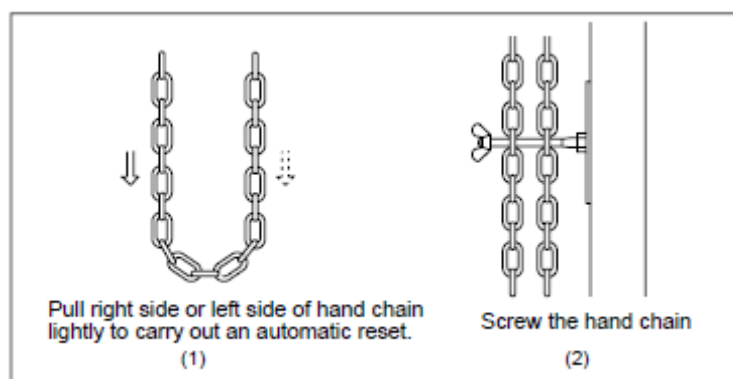

Fig. 10
- If the close indicator light on the control box flashes and the operator does not work by operating the control box button, pull one side of hand chain lightly until a reset is carried out see Fig.10 (1), the close indicator light turns off, and now the control box can be used.
- It is important to ensure that the chain is not fitted twisted. If the chain is twisted, malfunctions may occur when the hand chain is used. It is essential to screw the hand chain firmly in place as shown in Fig.10 (2).